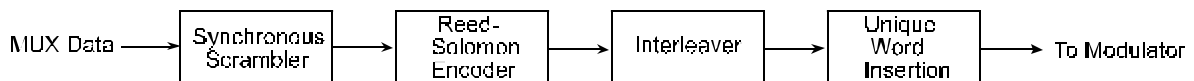

Figure 5-9. Reed-Solomon Encoder Functional Block
5.12 Reed-Solomon Codec (Refer to Figures 5-9, 5-10 and Table 5-1)